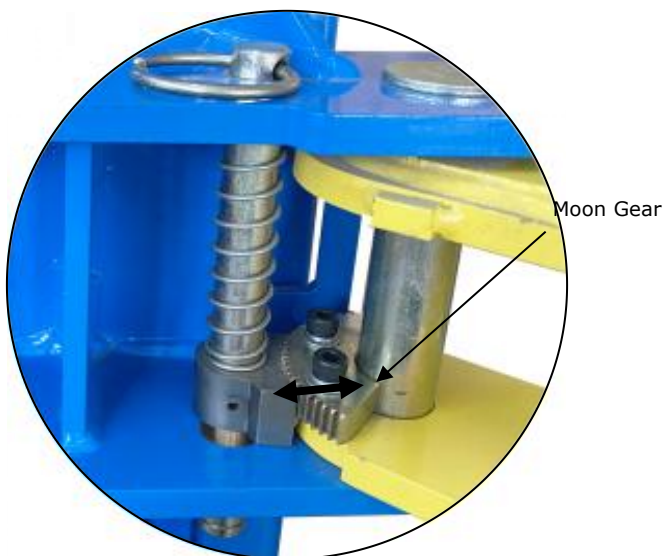

Fig. 36
3. Adjust arm lock as direction of arrow (**See Fig.36**).